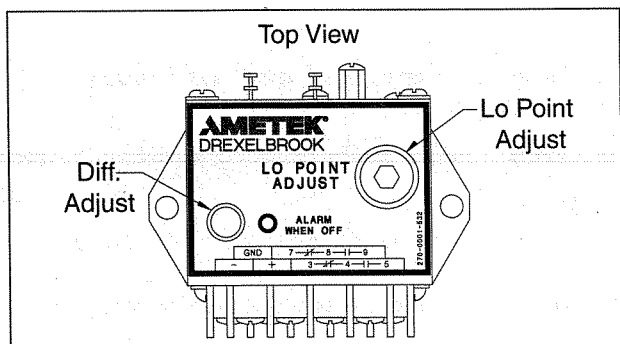

FIGURE 5-3
The differential range corresponds to the differential in level on the sensing element, and depends on the capacitance of the sensing element and the properties of the material being measured. See Figure 5-3 for location of the adjustments. For calibration of adjustable differential units, see Section 5.3.6
- B.** Using the insulated tool supplied, turn the *Lo Point adjustment* to the full counterclockwise (CCW) position. Using a small screwdriver turn the *Diff adjustment* to the full counterclockwise (CCW) position also. See Figure 5-3.
- D.** Slowly turn the *Lo Point adjustment* clockwise (CW) until the instrument just operates (LED comes on). Be sure to use the insulated tool provided.
- E.** Turn the *Diff adjustment* to the full clockwise (CW) position (max differential).